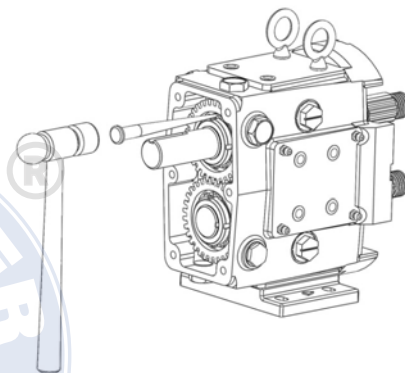

Figure 37: Bending Tabs on Lock Washers
2) Using a hammer and a punch, bend the tabs straight on the lock washers (Figure 37). Use a wedge (wood or plastic) to keep the shafts from turning while removing the lock nuts (Figure 38). Using a spanner wrench or the nut removal tool (available from Q-Pumps), remove the gear lock nuts. Slowly remove the gears from the shafts. Remove the gear keys and gear spacers from the shafts.